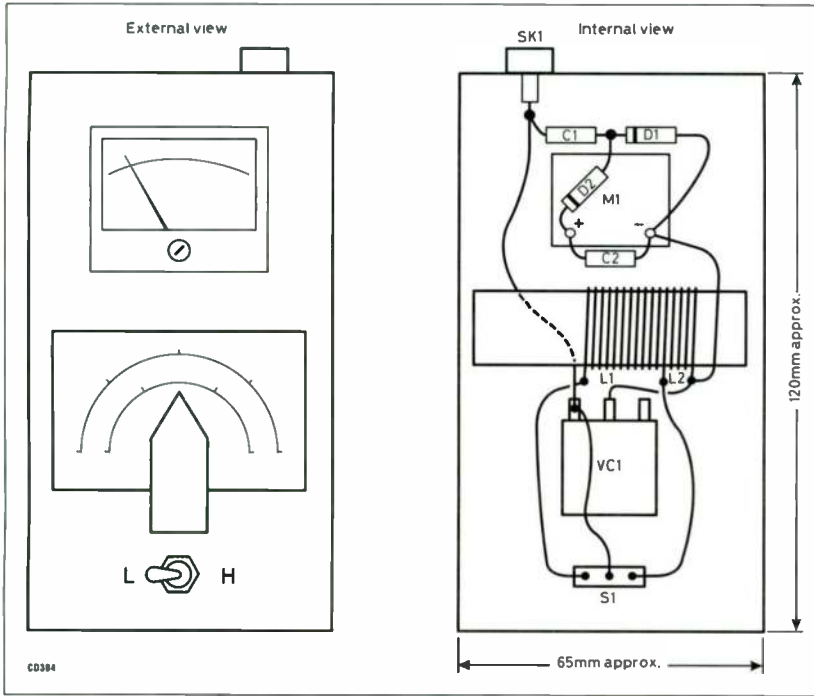

Fig 2.4. Suggested layout for the components
4. Assemble the wavemeter into a small plastic box. Size is not important as long as it is big enough to contain the coil former. The layout is shown in Fig 2.4 but this can be modified to suit the box in use. Fix the coil former by means of glue or double-sided sticky pads.